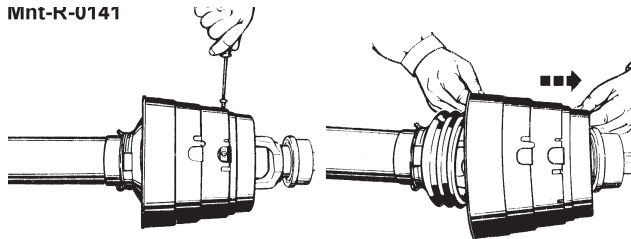
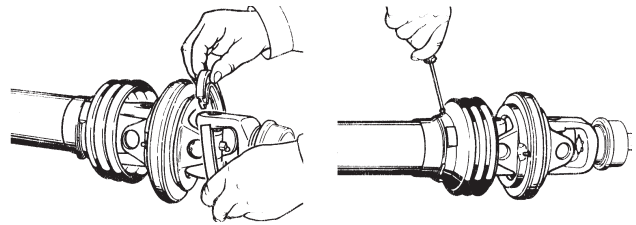
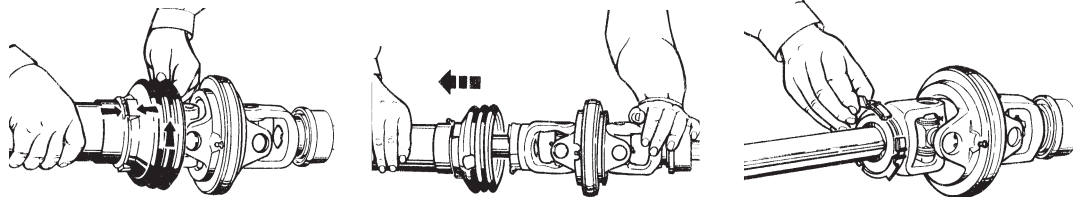

FIGURE 7
FIGURE 8
FIGURE 9
1. To remove the outer CV cone, remove the locking screws from shield cone. Remove cone over yoke. **FIGURE 7**. Remove bearing ring and remove the locking screws from inner shield cone. **Figure 8**. Turn inner cone to assembly position and remove half shield. Remove bearing ring. **FIGURE 9**.